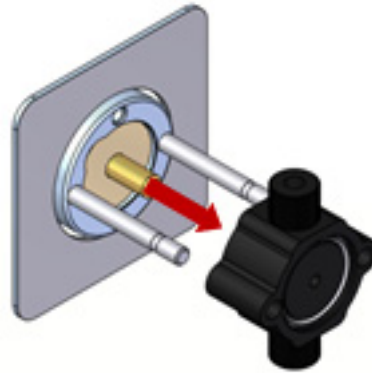

Figure 5-11 Removing the pump spacer block
10. Carefully pull the pump spacer block forward and off the guide pins. Pull straight and slowly to prevent damage to the piston. Also, remove the guide bushing from the piston if it did not stay in the pump spacer block (Figure 5-11).